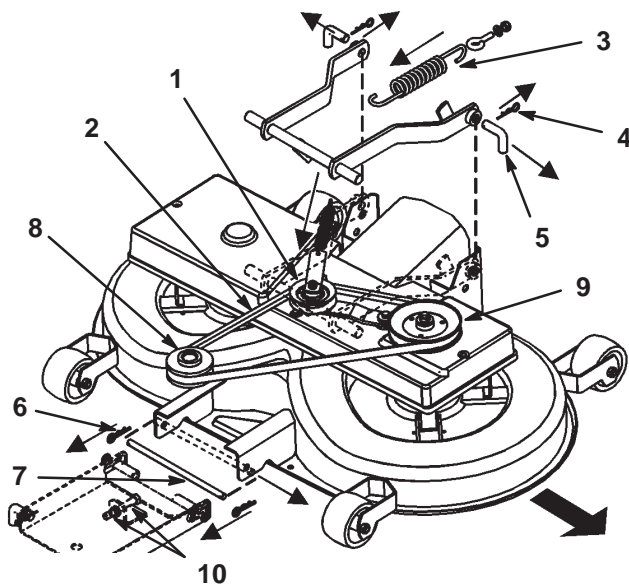

Figure 42
3. Pull the idler arm assembly in and remove the V-belt from the pulley (Fig. 42).
4. Disconnect the spring from the engagement lever (Fig. 42).
- Remove the hairpin clips from the two rear pins and remove the pins (Fig. 42). A pliers may be needed to pull the second pin out.
- Remove the hairpin clip from the front pin and remove the pin (Fig. 42).
- Remove the V-belt from the engine pulley (Fig. 42).
- Remove the V-belt pulley and idler arm assembly (Fig. 42).
- Move the lower pin of the front adjustment suspension into the bottom position of the slotted holes by adjusting the 2 nuts (M12) on the front suspension (Fig. 42).